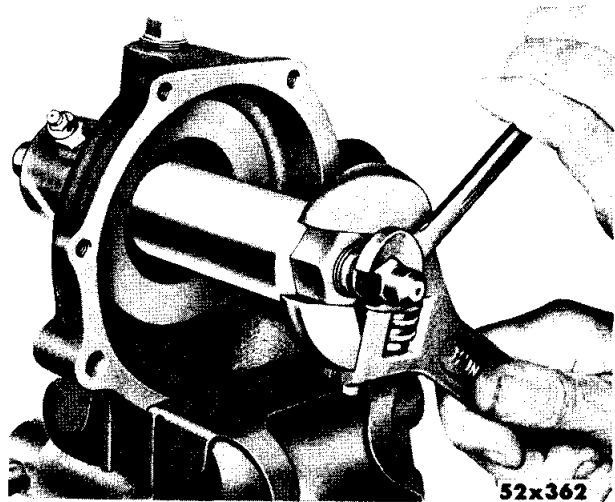
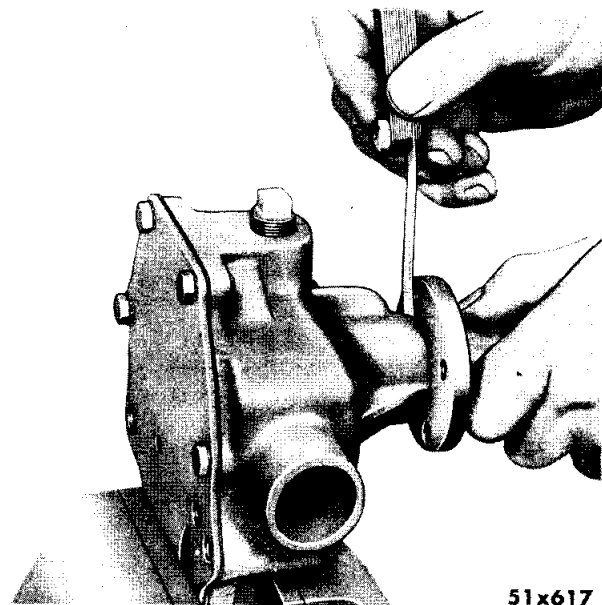

Fig. 5—Line Burnishing Bushings
Fig. 6—Checking End Play of Water Pump Shaft
- (1) Install impeller on shaft so that the back of impeller is flush with end of shaft. *Do not pin impeller to shaft.*
- (2) Install water pump seal.
- (3) Install water pump seal retainer washer.
- (4) Install water pump seal retainer lock ring. (If a new shaft, impeller and seal assembly is installed, omit Operations 1 through 4.)
- (5) Line burnish the bushings and reface the housing (Fig. 5).
- (6) Before installing the shaft assembly containing the bellows seal, be certain to place the grease retaining washer behind the rear bushing. This washer prevents excessive lubricant from damaging the seal.
- (7) Slide shaft assembly through rear bushing, thrust washer and front bushing, aligning shaft and washer. Push the shaft assembly into pump, compressing seal and spring. Look into the water inlet and check the clearance between the snap ring and the seal retaining washer. This should not be less than $\frac{3}{32}$ inch. When correct clearance is obtained, drill the shaft and install the impeller pin.
- (8) Mark the end of the shaft to indicate the direction of the hub pin hole. (This operation is not necessary when a new shaft is installed.) Then, press a new fan pulley hub onto the pump shaft, leaving a clearance (between the bushing and hub) of .033 inch for shaft end play, measured with a feeler gauge (Fig. 6).